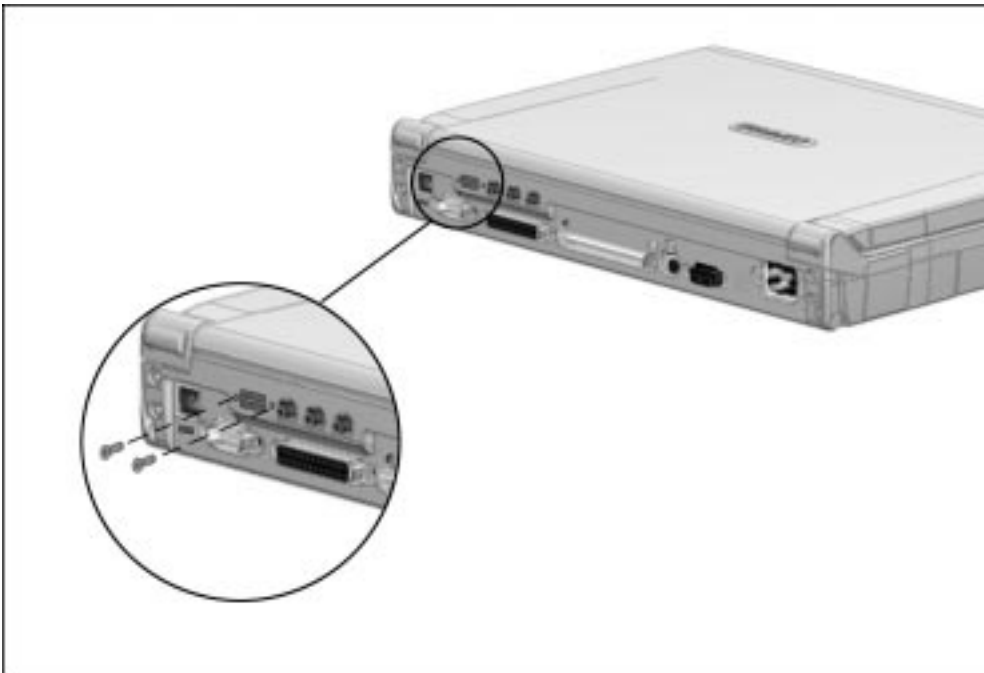

Figure 5-38. Removing the Audio/USB Board Screws
5. Remove the two screws on either side of the USB connector (Figure 5-38).